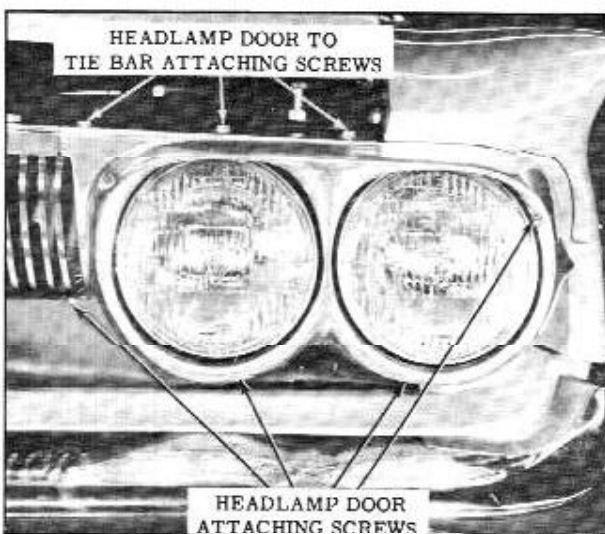

Fig. 13-78 Headlamp Door Removal
1. Remove headlamp door. (Fig. 13-78)